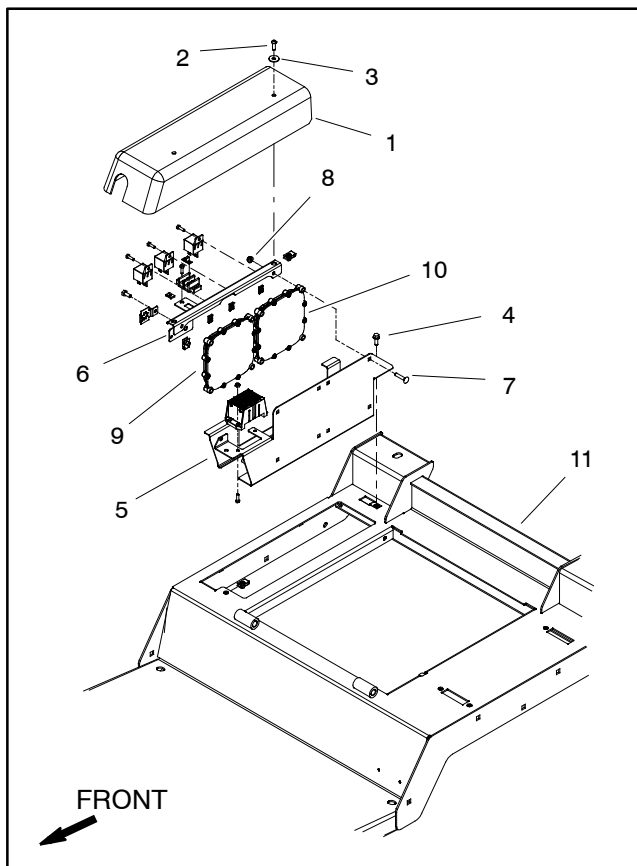

Figure 64
Groundsmaster 4000-D and 4010-D machines use two (2) Toro Electronic Controllers (TEC) to control electrical system operation. The controllers are attached to the operator platform under the controller cover (Figs. 64 and 65).
If removal of the TEC controllers is necessary, label the controllers to make sure they are properly connected to the machine. The two (2) TEC controllers are visually identical but they have different software and therefore cannot be interchanged. The power mount (item 5 in Fig. 64) can be separated from the operator platform and carefully lifted from the platform to access the controller fasteners.